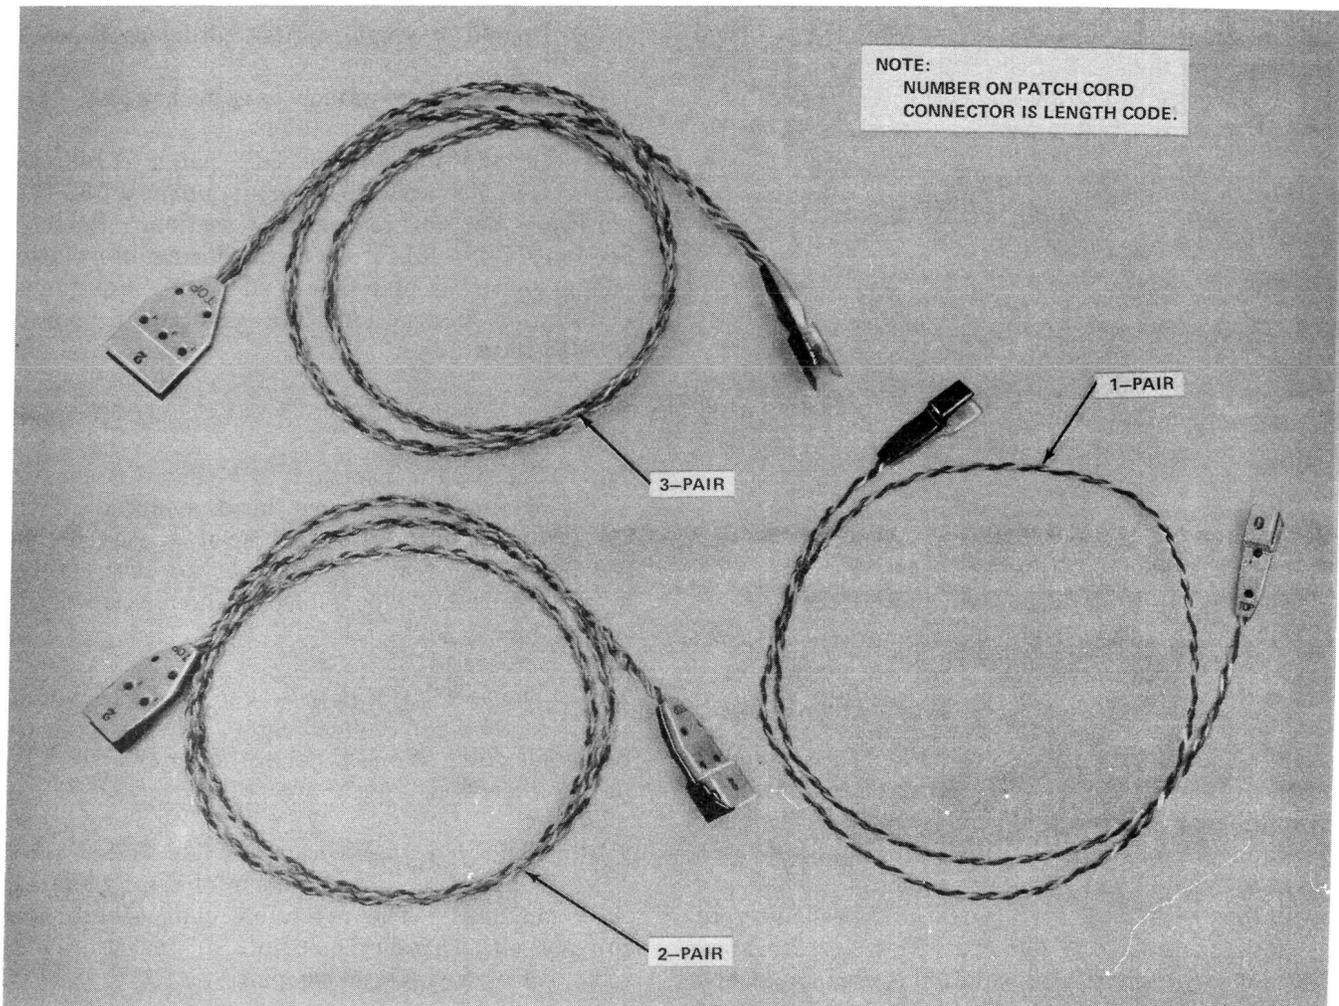

Fig. 9—88P-Type Patch Cords
- Replace the 788B1 tool (MD) with the 788B2
- Replace the 788D3 tool (MD) with the 788D4
- Add new Fig. 9.
2.12 The 88P-type patch cords (Fig. 9) are intended primarily for use with the Customer Administered Terminal Move Service (CATMS), but may have applications with other installations of 88-type wiring and connecting blocks. They are available with 1, 2, or 3 pairs in fifteen discrete lengths from 25 to 235 centimeters. Stranded 24-gauge wire with PVC insulation is used. Attached to each end of the patch cord is a fire-resistant plastic connector which plugs into an 88-type connecting block mounted on the front of a wiring block. The connector is designed to fit over the teeth of the connecting block in such a way that pair alignment is maintained. The word "TOP" is visible on the white upper side of each connector to assure that leads are not reversed. The 88P-type patch cords are reusable and require no tools for installation or removal. A complete list of patch cords is contained in Table B.